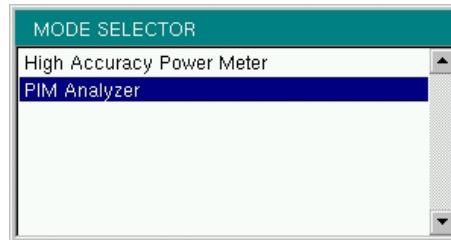

Figure 2-10. Mode Selector Menu
To access the functions under the Mode menu, select the **Shift** key, then the **Mode (9)** key. Use the directional **Arrow** keys to highlight the selection, and press the **Enter** key to select. The list of modes that appears in this menu will vary depending upon the options that are installed and activated in your instrument. Figure 2-10 is an example of the Mode menu. Your instrument may not show the same list.